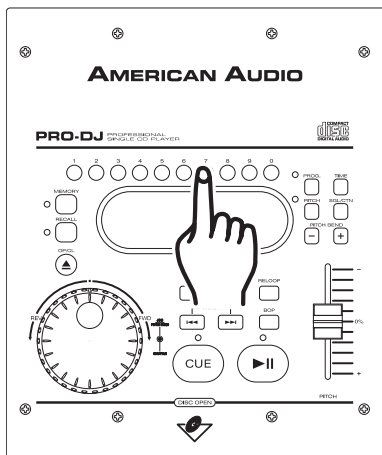

Figure 20
- 2) At this point pressing any one of the ten **BANK BUTTONS** (1) will store your cue point into memory (Figure 20), and the yellow Cue Memory LED will shut off.